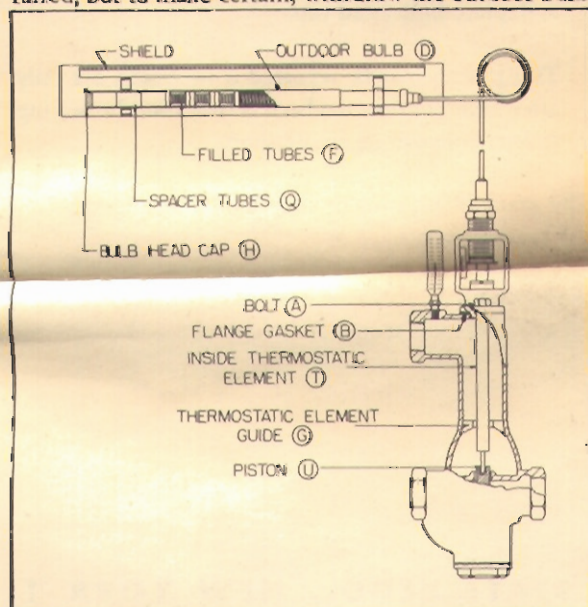

Fig. 11. Outdoor and Indoor Thermostatic Bulbs.
2. Remove two bolts A, Fig. 11, and lift entire inside thermostatic element T out of valve body.
2. Remove two bolts A holding flange of yoke to body (see Fig. 11).
6. Insert thermostat bulb T into opening of body in a vertical position as shown in Fig. 11.
Changing the slope of the calibration curve requires the addition or removal of thermostatic oil from the system which is accomplished by adding or removing a number of filled tubes F, Fig. 11, from the outdoor bulb D. The outdoor bulb is so constructed that it usually contains three oil-filled tubes F which are flexible and three spacer tubes Q which are rigid.
2. Unscrew bulb head cap H, Fig. 11.